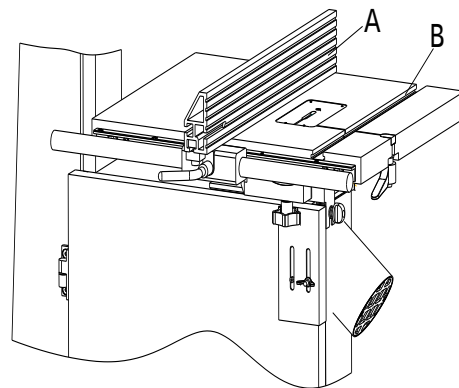

Fig. 14
1. First turn on the Rip fence assembly(A) close to the T slot(B) side;
2. Adjust the Rip fence assembly , make the side parallel to T slot. as shown in figure 14.